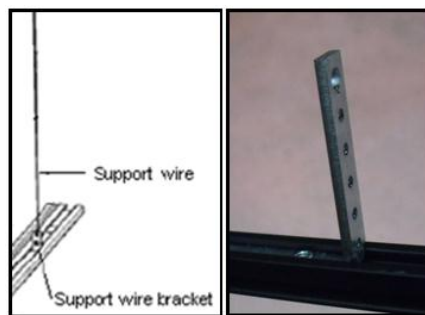

Figure 2.
- b) Determine luminaire position on the ceiling and Hang support wires from structural members to the level of the luminaire. Use minimum of two wire supports for the 2 ft housing and then every 36" in length Figure 2.